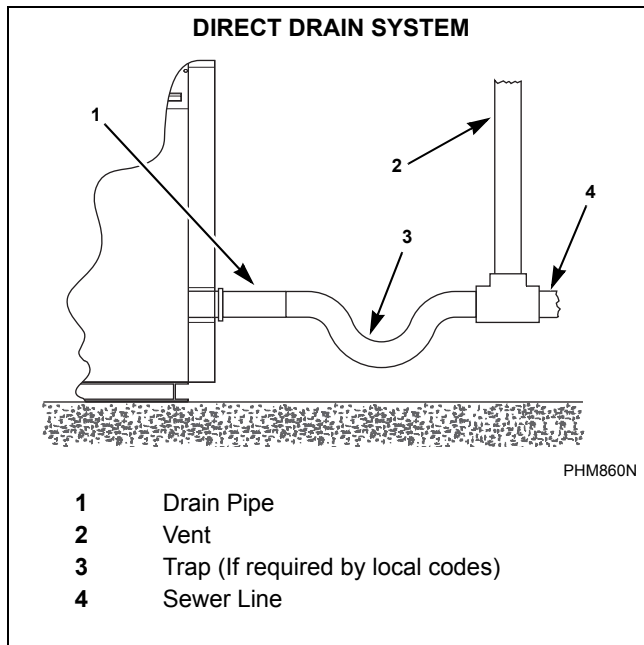

Figure 16
10. Completely fill the space between the machine base and the floor with a good quality **non-shrinking machinery precision grout** to ensure a stable installation. Grout completely under frame. (If bolted with inside pattern, remove front panel and back panel to gain access to **all** frame members.) Refer to *Figure 16*. Force grout under machine base until all voids are filled.
All drain systems must be vented to prevent an air lock and siphoning. Refer to *Figure 16*.